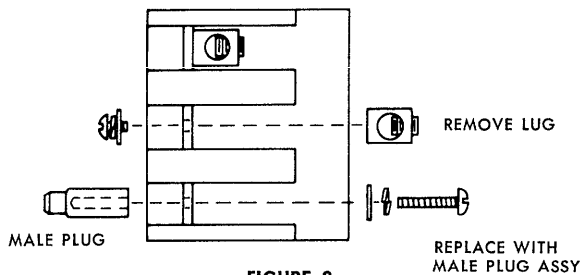

FIGURE 2
- (2) Replace each lug on E100 (including TED), F225 and TB1, or each screw on the Old Style F, with one male plug assembly, Figure 2, consisting of (1) male plug, 10-32 x 1" Lg. Rd. Hd. screw, lockwasher and flat washer. Tighten screws securely.